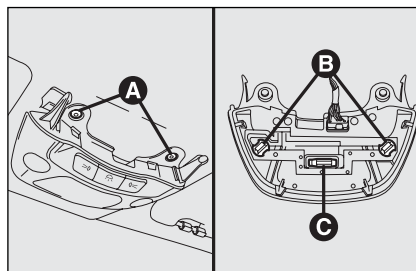

fig. 42
- ☐ slacken the 2 fastening screws **A**-fig. 42, then turn the 2 bulb holders **B** counterclockwise;
- ☐ remove the bulbs and replace them. To replace bulb **C**-fig. 42, release it from the side contacts making sure that the new bulb is correctly clamped between the contacts.